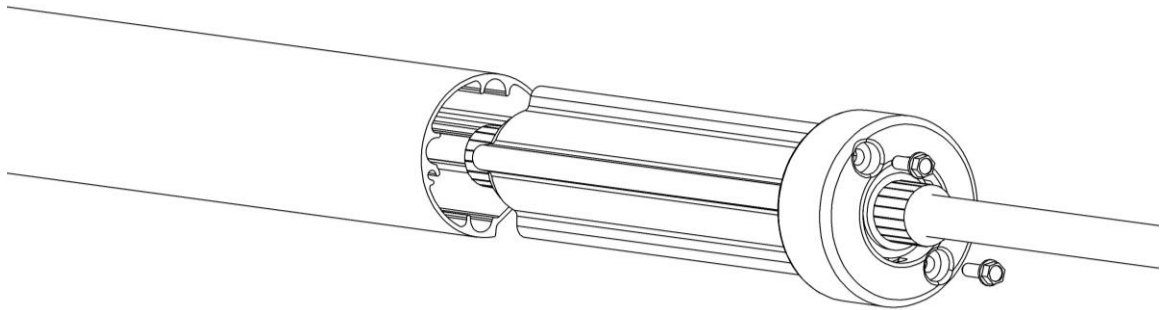

Figure 14
5. With the tarp axle hanging on the lockdown side of the trailer. Insert the end of the cable with the axle adapter on it into the back end of the tarp axle until the poly axle cap slides onto the axle and bolt in place (see Figure 14).